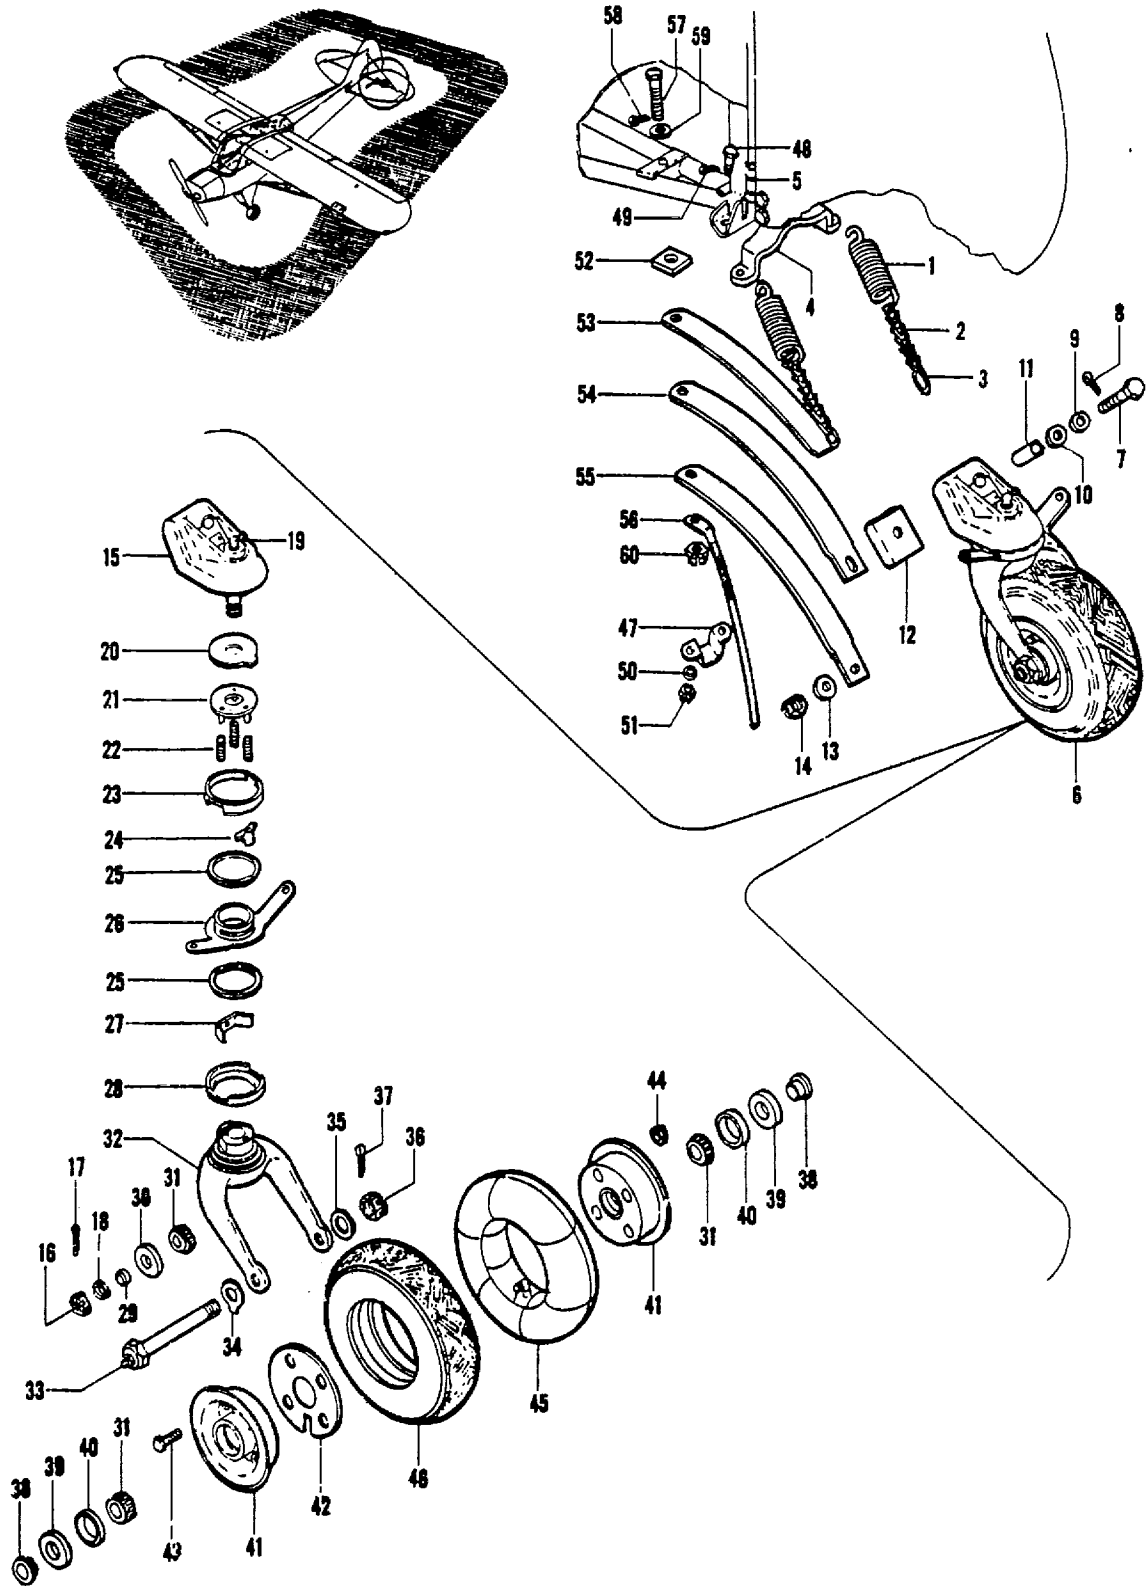

Figure 2-24. Tail Wheel Assembly
**2-99. DESCRIPTION.** (See figure 2-24.) The steerable tail wheel is mounted on shock-absorbing steel spring leaves which are bolted to the tail post of the fuselage structure. The tail wheel mounts on 8 x 4.4 four ply, pneumatic static grounded tire. Steering of the tail wheel is accomplished through spring loaded chains running from (26, figure 2-24) on fork (32) to the rudder arm (4). A static ground wire assembly (56) is provided to discharge any static electrical charges when landing the airplane.
2-101. REMOVAL OF TAIL WHEEL. (See figure 2-24.)	spring (1, figure 2-14), clean (2), and link (3) from fork (32).
b. Disengage and remove the tail wheel steering	c. Remove tail wheel springs (53, 54, and 55), static ground wire (56), spacer (12), and tail wheel (6) by re-
Legend for Figure 2-24.
moving bolts (7, 48, and 57) according to figure 2-24.
**2-102. DISASSEMBLY OF TAIL WHEEL.** (See figure 2-24.)
- a. Remove tail wheel (6) from fork (32) by removing axle (33).
- b. Deflate tube (45), separate wheelhubs (41), and remove tube (45) from tire (46). Extract spacer (38), grease retainer (39), spacer (40), and bearing (31) from each wheel hub (41).
**2-103. DISASSEMBLY OF TAIL WHEEL BRACKET AND FORK.** (See figure 2-24.)
- a. Extract cotter pin (17) and remove nut (16). Disassemble washer (18), spacer (29), grease retainer (30) and bearing (31) from the fork (32).
- b. Carefully pull bracket (15) out of the fork (32). Disengage lower dust cap (28), spring (27), arm assembly (26), thrust washer (25), pawl (24), upper dust cap (23), compressor springs (22), thrust plate (21) and thrust washer (20) from bracket (15).
**2-104. CLEANING OF TAIL WHEEL COMPONENTS.** (See figure 2-24.)
**2-105. INSPECTION OF TAIL WHEEL COMPONENTS.** (See figure 2-24.)
- a. Inspect arm assembly (26), fork (32), and bracket (15) for excessive wear, cracks or other damage. Replace damaged parts.
- b. Check compression springs (22). Replace springs that have taken a "set".
- c. Examine thrust washers (20) for wear, scoring or other damage. Replace damaged thrust washers.
- d. Inspect all bearings (31) for wear or damage. Replace worn or damaged bearings.
**2-106. MINOR REPAIR OF TAIL WHEEL COMPONENTS.** (See figure 2-24.) There are no repairs for the tail gear components outside of realigning minor
**2-108. REASSEMBLY OF TAIL WHEEL BRACKET AND FORK.** (See figure 2-24.)
- a. Place lower dust cap (28) on fork (32) and attach spring (27) to the fork.
**2-109. REASSEMBLY OF TAIL WHEEL.** (See figure 2-24.)
- a. Place tube (45) in tire (46) and assemble wheel hubs with gasket (42) to the tire and tube assembly. Make certain gasket (42) is properly aligned with tube valve and hub bolt holes. Inflate tire to 50 pounds.
- b. Pack bearing (31) and bearing cones in hubs, with grease, Specification MIL-L-3545. Assemble bearing (31) spacer (40), grease retainer (49) and spacer (38) to the wheel hubs. Insert the assembly according to figure 2-24. Tighten nut (36) back off to first cotter pin hole in axle assembly (33) and insert cotter pin (37).
**2-110. INSTALLATION OF TAIL GEAR.** (See figure 2-24.)
- a. Assemble tail wheel springs (53, 54, and 55) and static ground wire (56) to the fuselage tail section with bolt (57), nut (60), clamp (47), bolt (48) and nut (51). Tighten nuts (51 and 60), back off to first cotter pin holes in the bolts to secure the assemblies with cotter pins (49 and 58).
- b. Position tail wheel (6) on spacer (12) and tail wheel springs (53, 54 and 55) and fasten the assembly according to figure 2-24. Tighten nut (14) (reference Table III) to 20 foot-pounds, insert Cotter pin (8) at first Cotter pin hole in bolt (7) after reaching 20 pounds, but before reaching 35 foot-pounds.